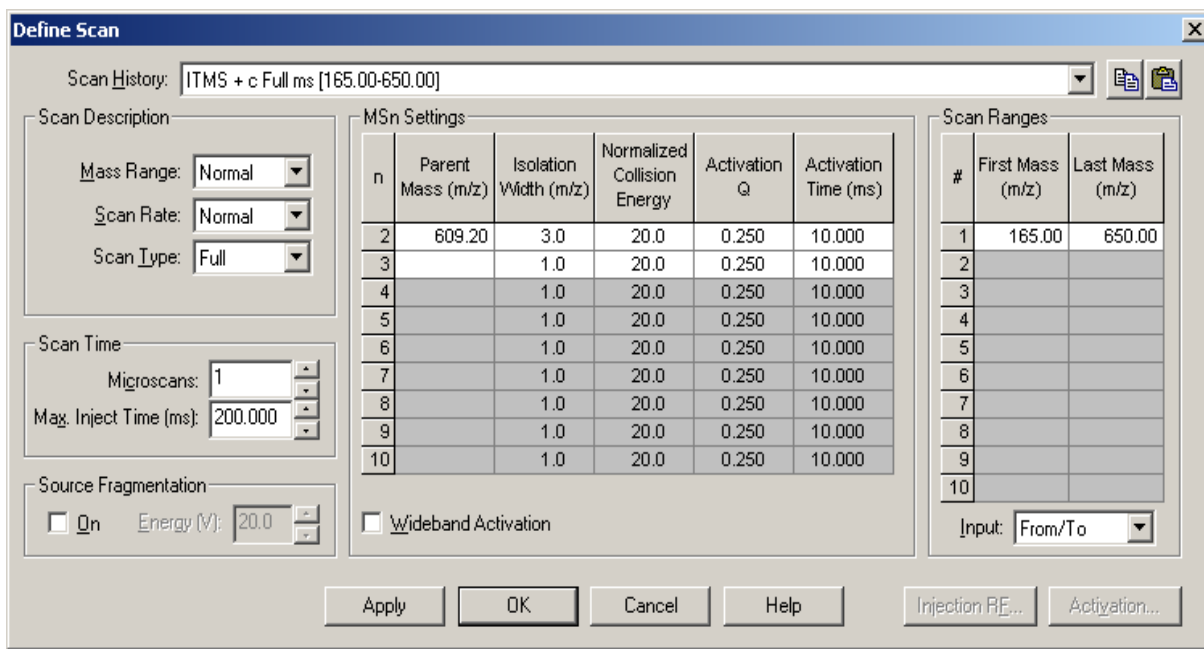

Figure 37. Define Scan dialog box, showing initial settings to optimize the isolation width of an MS/MS experiment for reserpine
- a. Click on the Define Scan button to open the Define Scan dialog box. See Figure 37.
- b. Verify that the values in your dialog box are the same as those shown in Figure 37. Start with a relatively wide Isolation Width of 3 u (MSⁿ Settings group box, Isolation Width text box, Figure 37). Click **Apply** when you are finished entering the values. Leave the Define Scan dialog box open.